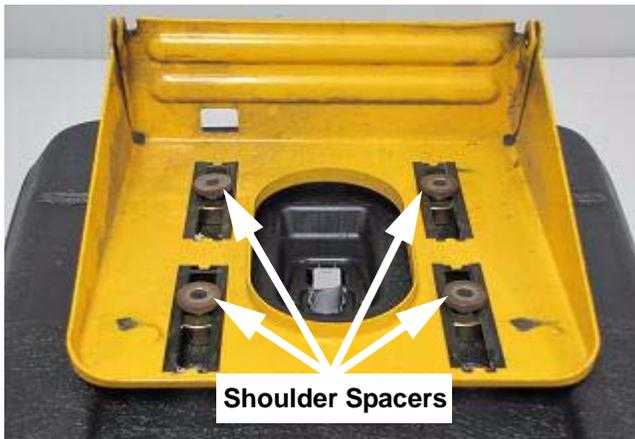

FIGURE 14
20. Install the four (4) Ref. #2 (738-0372B) shoulder spacers with the shoulder side down in the slot and aligned with the hole of the (750-03592) spacer as shown in Figure 14.